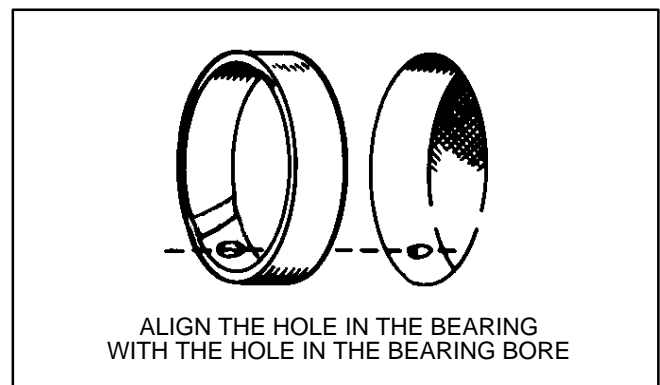

FIGURE 62. FRONT CAMSHAFT BEARING
**Front Bearing:** See Figure 62. Press the front bearing in so that the oil hole in the bearing lines up with the oil hole in the bore.